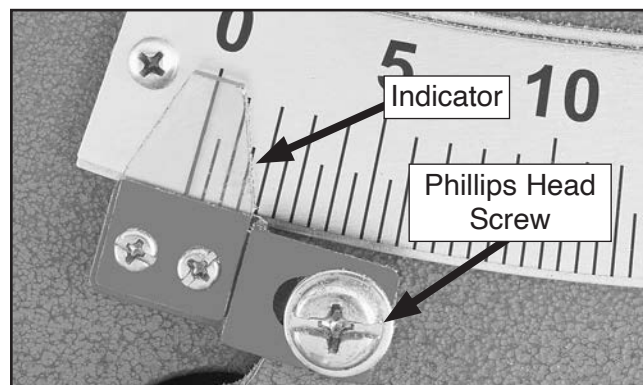

Figure 100. Tilt indicator arrow.
- If blade *is* 90° to table, then adjustments do not need to be made. Make sure tilt indicator arrow shown in **Figure 100** points to 0° mark on scale. If it does not, remove blade height lock knob, loosen blade height handwheel set screw and remove handwheel.